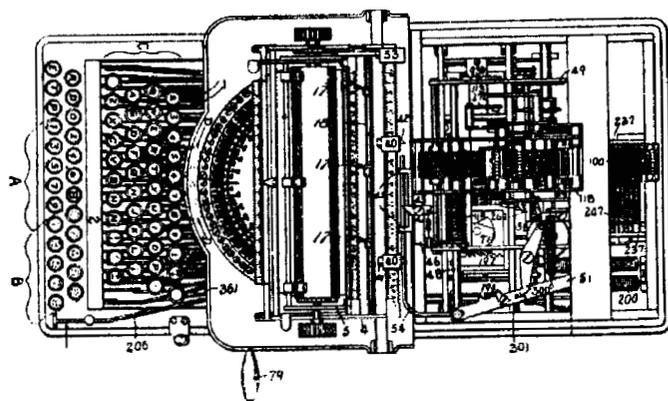

Figure 223
tension cord connected to a tension spring, while the release is handled by two small blades under the toothed rack. On the right side of the platen is the platen gear to which a cam lever is connected—this is used for setting the spacing as usual and at the same time for shifting the carriage to the right, back to the starting position. Next to it there is a lever connected to one of the disks in front of both blades. With the aid of this lever it is possible to remove the blades from the toothed rack, so that the carriage can be easily pulled against the tension spring as far as it is allowed to travel. Above the keyboard are four tab keys (marked *D* in figures 223 and 224) that also operate both blades; that is, take them out of contact with the rack. The corresponding stops sit on a scale attached behind the platen. When the carriage is freed by one of the tab keys and is pulled to the left by means of the tension cord, the stop corresponding to this key halts the carriage at the place where the respective column should begin.
It should be mentioned that the machine is equipped with three groups of sum gears, or totalizers. These are attached to a shaft that is free to be shifted across the machine frame. Each of these three groups of sum gears has ten such gears lying adjacent to one another. According to how it is set, either the left, middle, or right group is within range of the movable toothed racks (marked 100 in figures 223 and 224), on the front ends of which there are the type heads of the adding mechanism. The shaft is attached by means of connecting links to the paper carriage of the machine. As with standard type-
Addition: Figures to be added are entered by means of the keys of the calculating machine keyboard (see group **A** on figure 223). These carry the figures into the first of the three front calculating mechanisms and, in this way, as many items as required can be added. The key **T**, in the lowest row of keys of the calculating machine keyboard, is used to print the result. Errors can be corrected by means of the correction key (206 in figure 223).